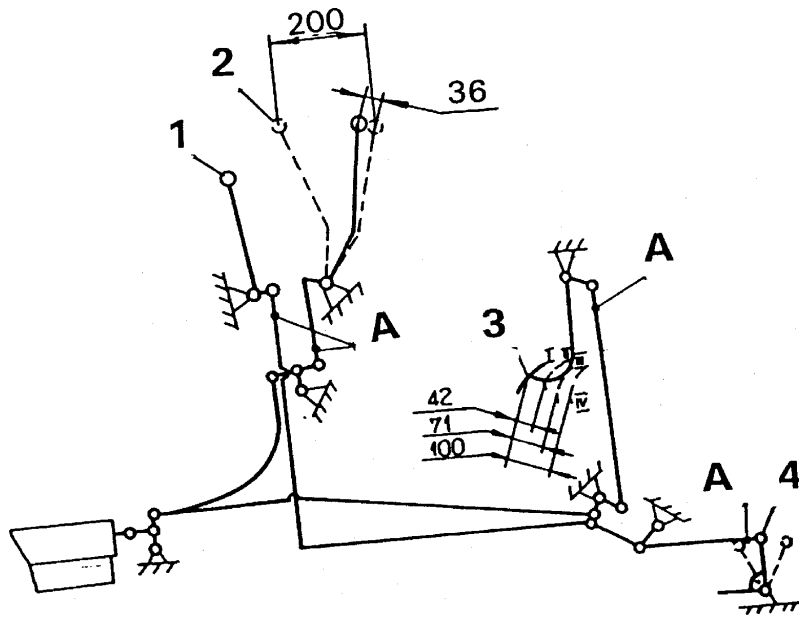

Fig. 5.52. Hand and Foot Controls
- c) Adjust foot pedal „3” to maintain the dimensions in mm (Refer to Fig. 5.52):